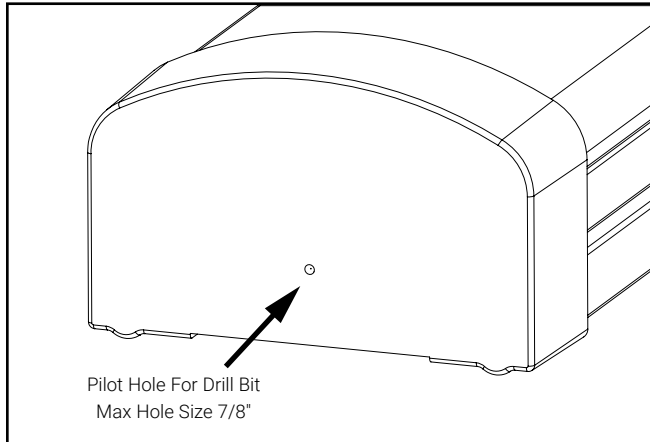

Figure 13.
2. Using the pilot hole dimple on the outside face of the end cap as a guide, drill up to a 7/8" hole for through wiring. Remove any debris from the drilling operation (Figure 13).